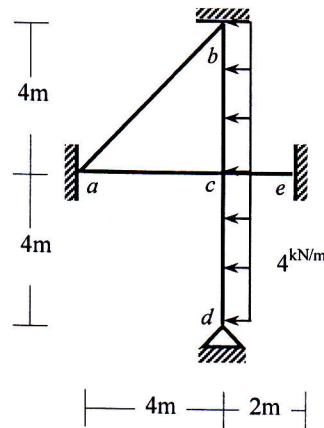

Fig. 2
- Consider flexural deformations only (with consistent mass matrix) to calculate the natural frequencies of the frame *abcde* shown in Fig. 2 [Given: $EI = 16 \times 10^3 \text{ kN-m}^2$, Mass per length $\mu = 1.05 \text{ kg-sec}^2/\text{m}^2$].